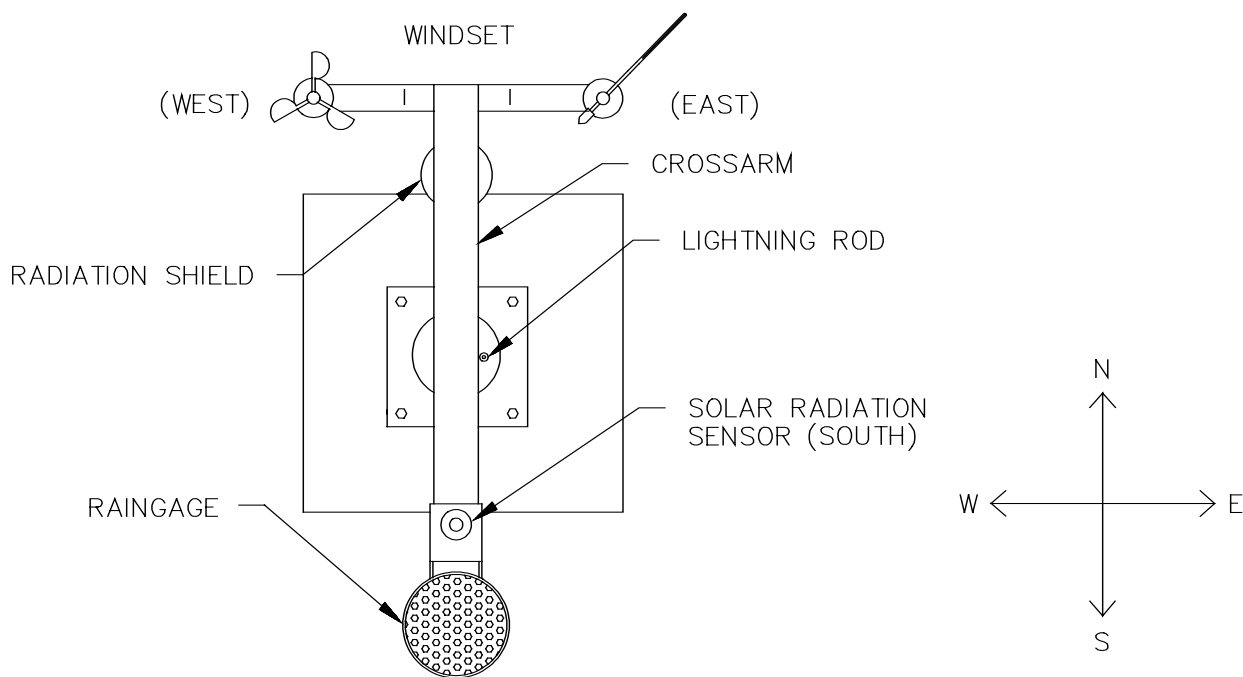

FIGURE 2.4-2. Wind Set Alignment
***Step 4** — (Figure 2.4-2) Tighten the crossarm and mast as much as possible while aligning the crossarm north-south. The crossarm end, with the 1 5/8" hole on the underside, must be pointed north. Use of a compass is recommended as the crossarm orientation affects the accuracy of the wind direction measurement.
Step 5 — Mount the wind sensors on the north end of the crossarm using the brackets provided. The windset crossarm should be oriented east-west, with the wind direction sensor oriented to the east (Figure 2.4-2).